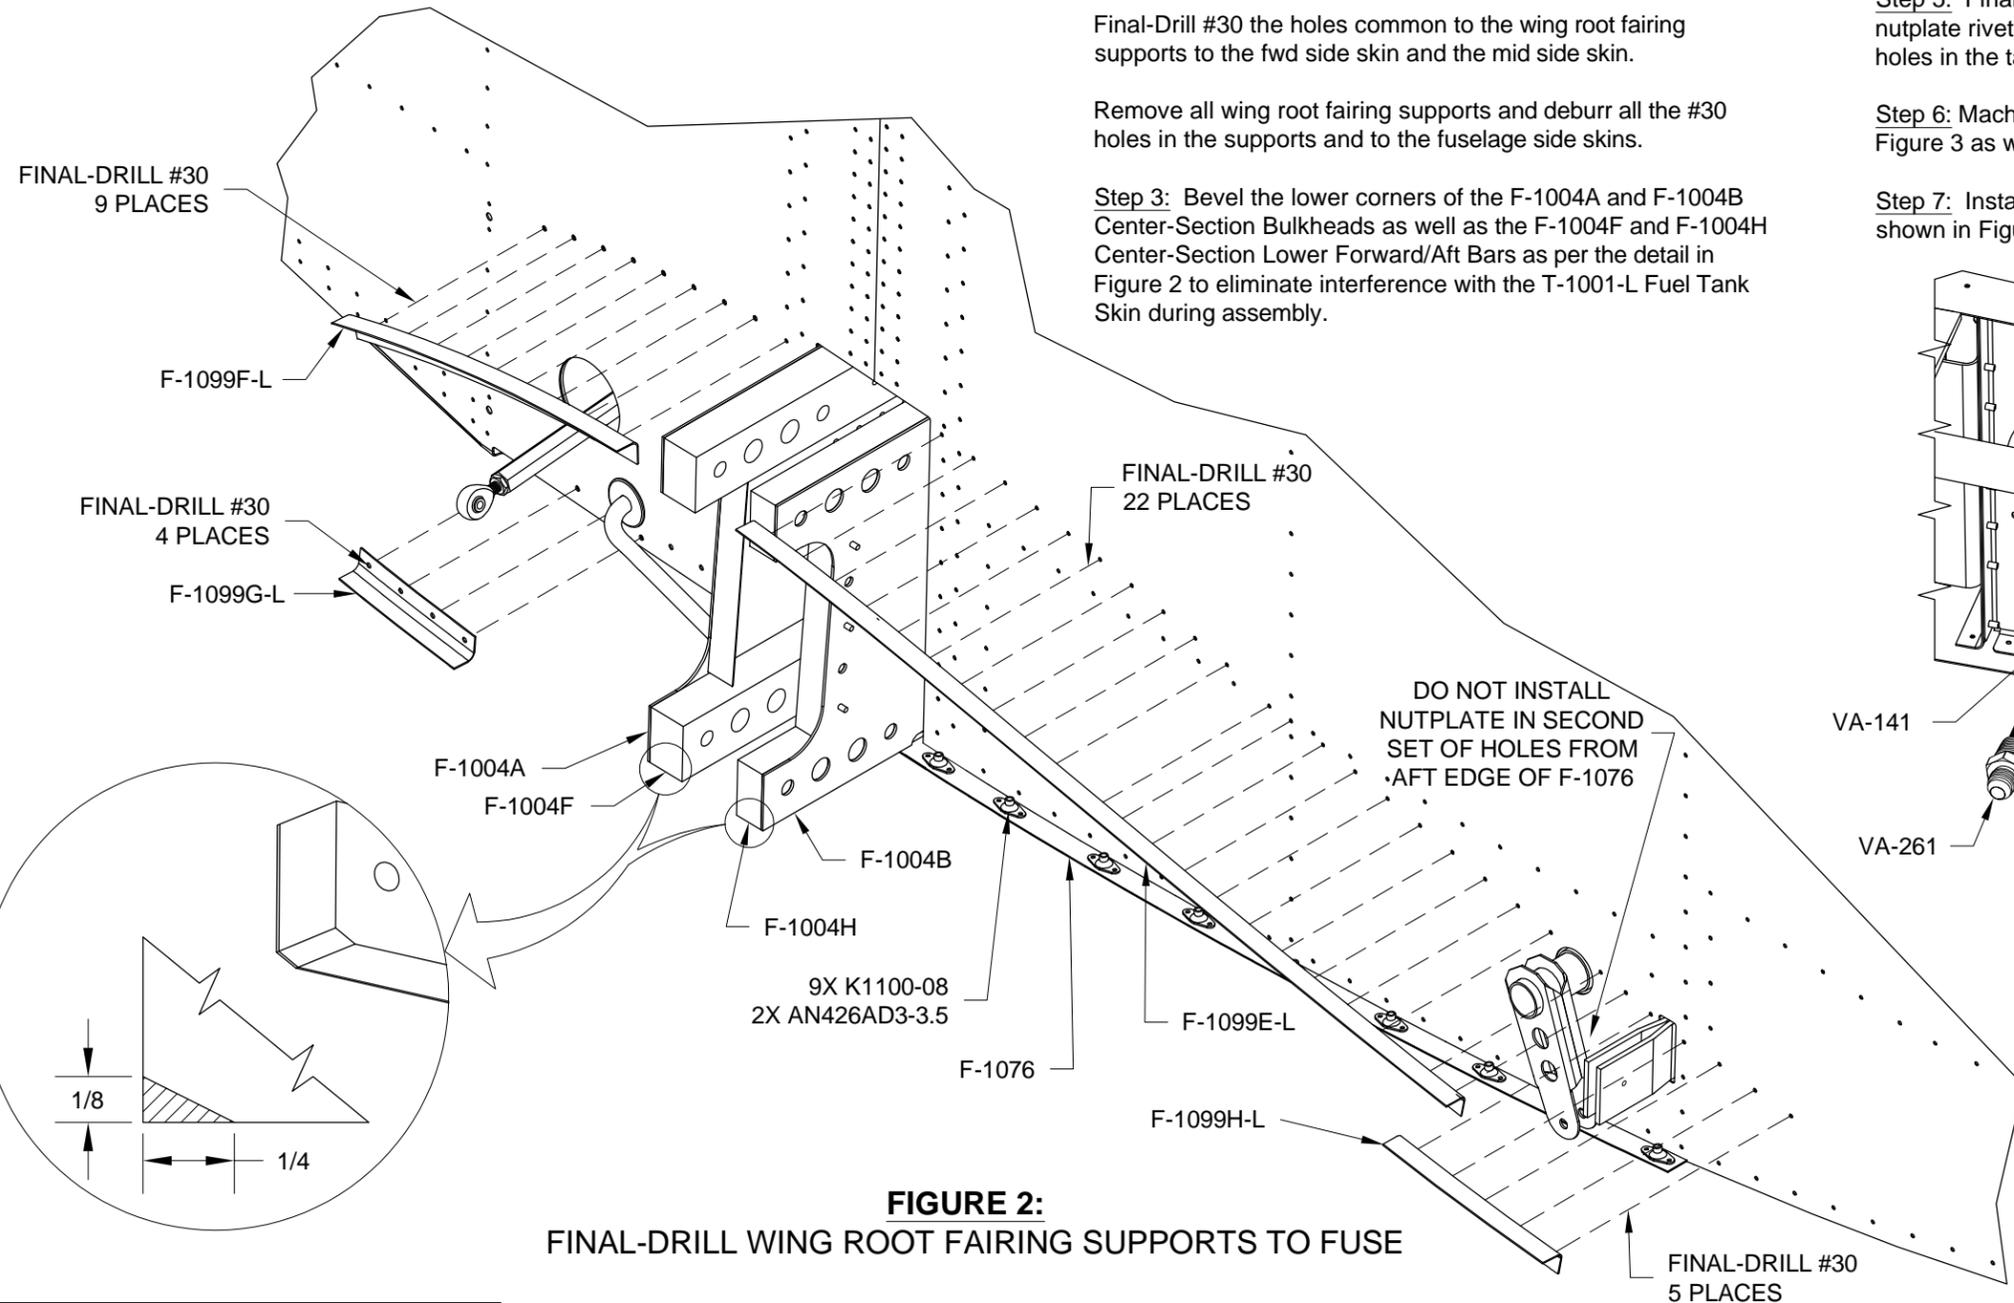

FIGURE 2: FINAL-DRILL WING ROOT FAIRING SUPPORTS TO FUSE
Step 2: Flute the vertical flanges of the F-1099E/F/G and H-L Wing Root Fairing Supports if/as required to make them follow the pattern of pre punched holes in the F-1069-L Fwd Side Skin and the F-1070-L Mid Side Skin as shown in Figure 2. Cleco them to the fuselage as shown in Figure 2.
Step 3: Bevel the lower corners of the F-1004A and F-1004B Center-Section Bulkheads as well as the F-1004F and F-1004H Center-Section Lower Forward/Aft Bars as per the detail in Figure 2 to eliminate interference with the T-1001-L Fuel Tank Skin during assembly.
Step 4: Install nine K1100-08 nutplates to the F-1076 Center Bottom Skin as shown in Figure 2. Final-Drill #40, deburr and dimple the nutplate rivet holes and the nutplates. Final-Drill #19, deburr and dimple the 3/32 center screw holes to receive the F-1099B Lower Wing Root Fairing dimpled for an AN509-8R8 screw. Rivet the nutplates to the fuselage bottom skin as per the callouts.